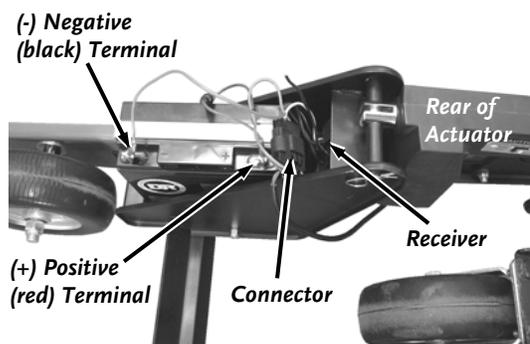

Figure 5
8. Connect the Linear Actuator and the Receiver connectors together (**Figure 5**).
12. Extend the Actuator Arm and disconnect the Negative Battery Terminal Wire (**Figure 5**), keeping it away from the Terminal.
Prior to performing the next steps, disconnect the positive (red) battery terminal (figure 5 on page 8) to prevent accidental activation of the scarifying teeth plates.